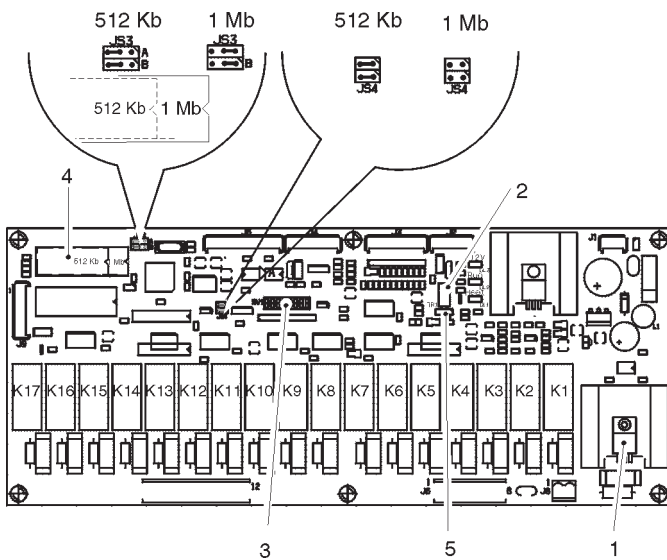

Fig. 19
This board (see Fig. 19) processes the information from the push-buttons and from the payment system, it also controls the actuations and the push-button board.
A set of minidips, allowing configuration of the board for use in the various versions and in the different countries, and a jumper (5), allowing configuration of the board for Instant or Espresso models, are located at the centre of the control board (see Fig. 19). The board is also designed to support 512 Kb and 1 Mb EPROMs by setting jumpers JS3 and JS4.